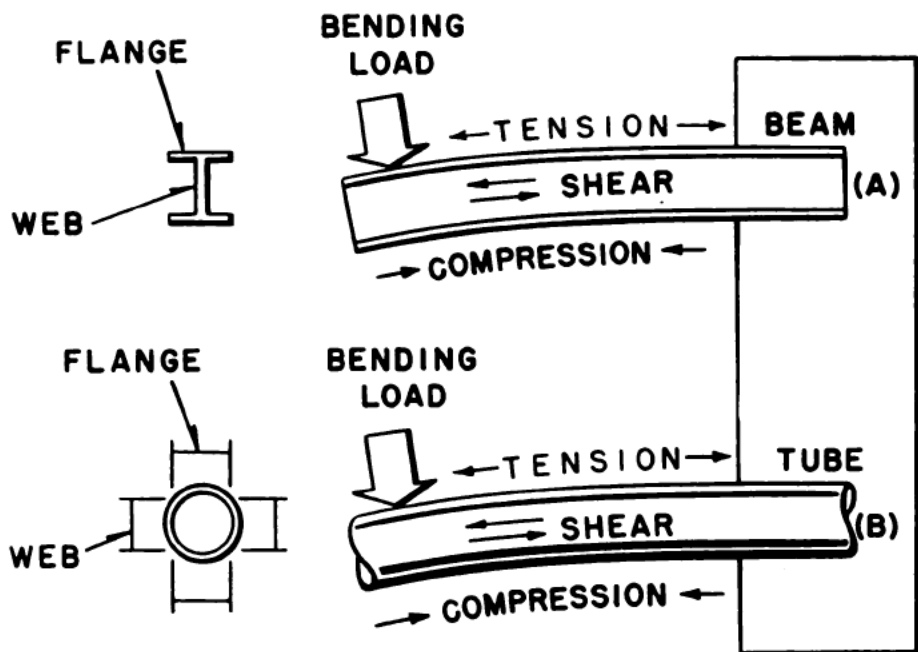

Figure 12.—The beam principle.
Suppose you had a common beam with one end cemented in concrete as in (A) of figure 12. Bending is a combination of TENSION, COMPRESSION and SHEAR. If you put a load on the protruding end of the beam, it would tend to bend the beam downward. As the beam bent, the stresses set up within it would be the following.
A semi-monocoque fuselage is a tube, you remember, but when such a tube is bent it has all the characteristics of a beam. A bending load VERTICALLY (tail loads, landing loads, etc.) sets up tension and compression stresses in the upper and lower stringers. Take another look at (B) of figure 12. The portions of the tube marked "Flange" correspond to the flanges of a beam, and they also correspond to the upper and lower stringers of a fuselage.